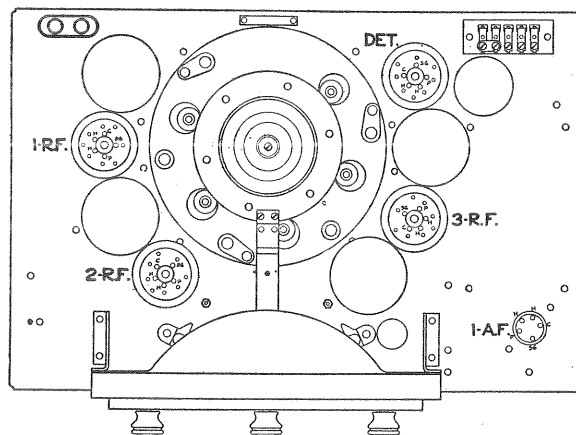

Fig. 5—Location of Radiotron Sockets in Radio Chassis.
- Faulty UY-224 in detector socket. (See Fig. 5 for location of various sockets.) At least one UY-224 out of the four will usually be found which will produce a minimum hum in the detector socket.